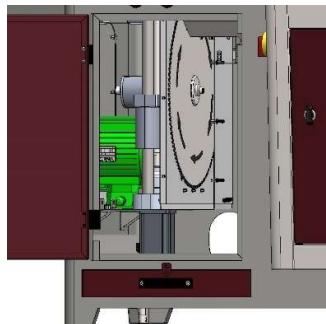

Figure 3
- 8.1.2. Remove the saw casing cover sheet metal. (Figure 3)